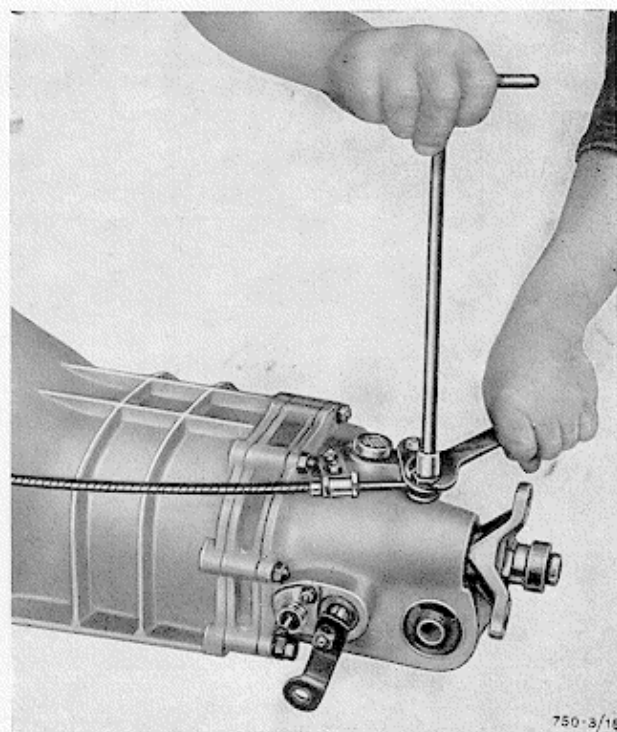

Fig. 18 - Attachment of flexible cable to gear selector arm
- Push the flexible cable onto its seating on the lever **5** and tighten the locking nut, taking care to hold the bottom nut to prevent the cable being bent and damaged (Fig. 18).